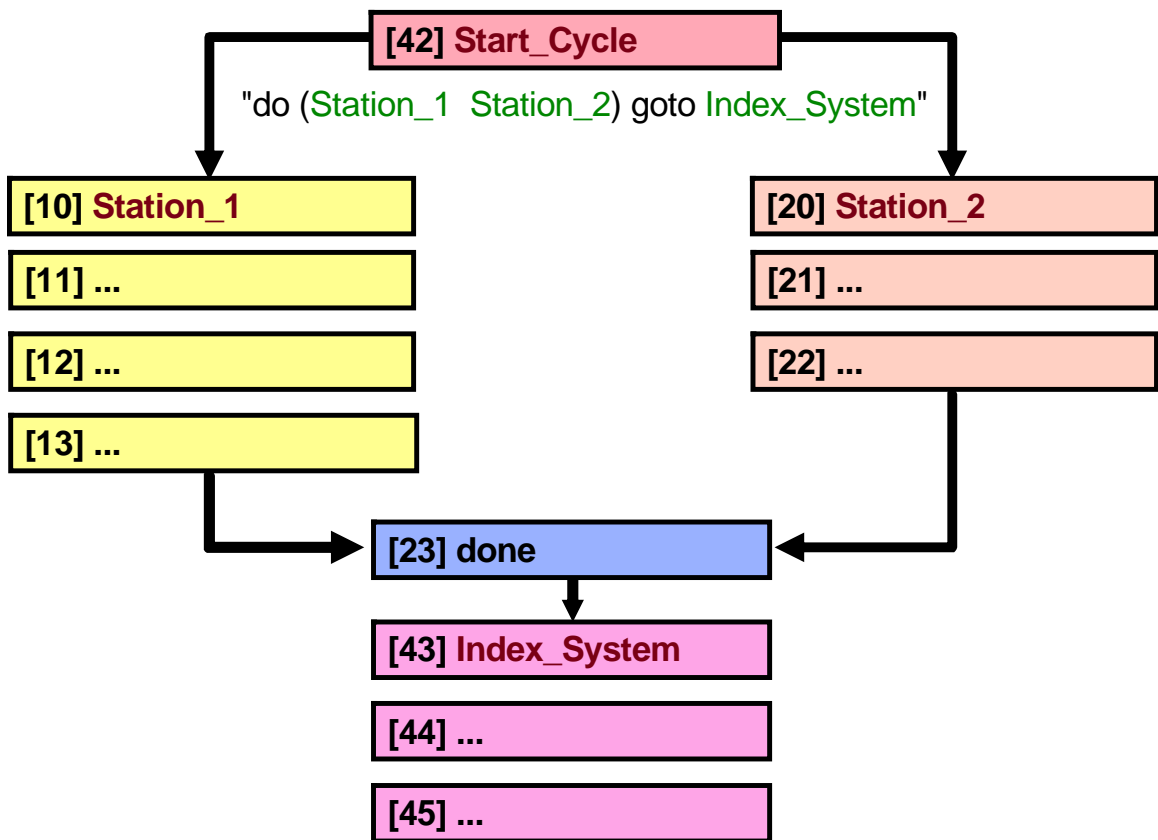

Figure 1: Flow chart depicting two finite tasks
7. Tasks can be finite or infinite (i.e. you can program them to finish with a done statement or you can program them to continuously run forever and never execute a done statement). See Figures 1 and 2.